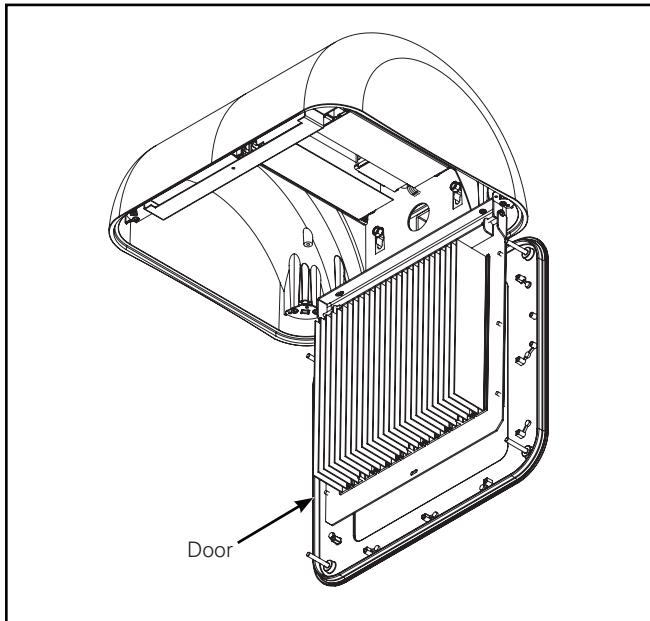

Figure 9.
6. Unscrew the #10-24 locking screw to disengage and pivot the LED assembly out of the way. (Figure 8. and Figure 9.)